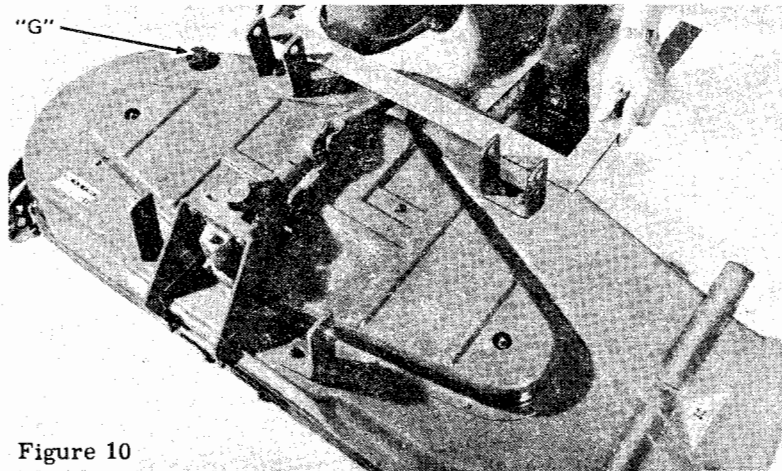

Figure 10
- (3) Remove front hanger brackets from mower deck.
- (4) Remove belt shield.
- (5) Release tension of spring (H).
- (6) Remove capscrews (G) holding gear case to base.
- (7) Remove drive belt from drive pulleys (I) and idler pulleys (J) and (K).
- (8) Raise gear case (L) which will allow enough clearance to slide belt out from the rear.
- (9) Install new belt by reversing the above procedure.
- (10) When remounting front "U" brackets align with a straight edge. See figure 10.
Your mower is equipped with a hose fitting insert which enables you to wash out the underside of your mower without removing it from the tractor. To attach hose, remove the plastic cap "G" figure 10, from the hose fitting. Attach hose, lower mower to its lowest cutting position, start tractor engine.